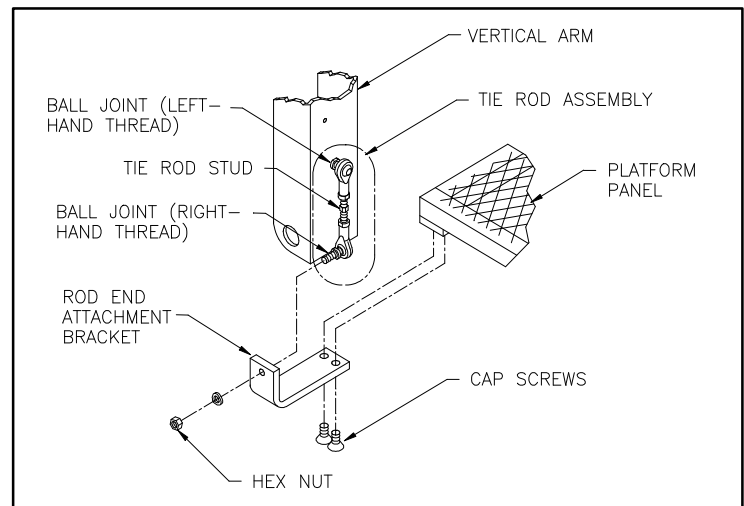

FIGURE 2-19: ROD END INSTALLATION
- Refer to **Figure 2-19**. Assemble rod end attachment brackets to left and right tie rod assemblies at right-hand ball joint. Note correct positioning of ball joint on inside of rod end attachment bracket.